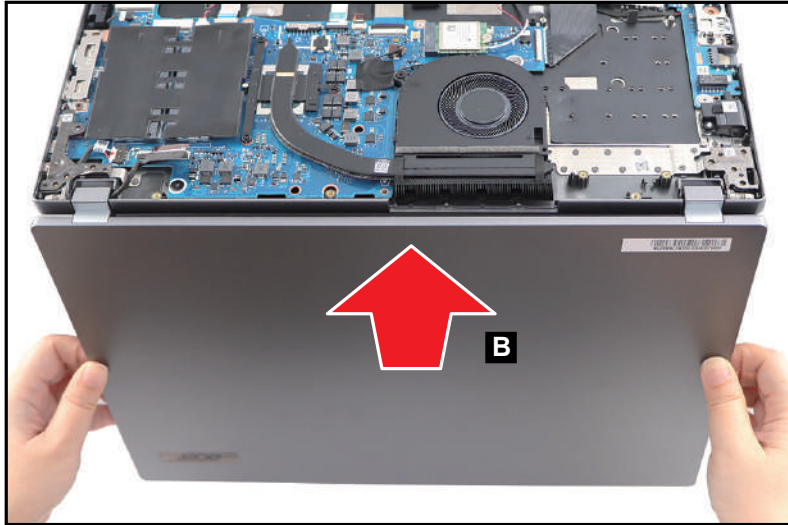

Figure 3-38. LCD Module Removal
3. Remove the LCD module (B) away from the top assembly (Figure 3-38).